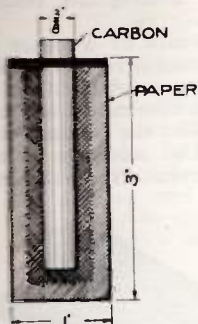

FIG. 1
M. E. FIG. 1
The cell described below is very simple in construction and much cheaper than purchasing. Secure the requisite number of zinc discs 1" in diameter and the same number of zinc sheets measuring 4" by 3". Now roll these sheets about a wooden cylinder, 1" in diameter, and carefully solder the lap together. Remove the zinc cylinder and solder the bottom discs in place. Caution: use a high lead solder and take care to keep the solder on the outside, preventing any from running inside where it would be corroded by the chemicals. Now line the cup with brown paper, leaving about an inch projecting above the top. Place a little of the following mixture on the bottom forming a layer $\frac{3}{8}$ " thick. Paste No. 1.—Plaster-of-Paris 12 parts, ammonium chloride 5 parts, zinc chloride 3 parts, water 22 parts, all by weight. See Fig. 1. Place a $\frac{1}{2}$ " wooden rod in the center and fill all around it to within $\frac{3}{8}$ " of the top of the zinc, with the same paste. After standing a while remove the rod and place the $\frac{3}{8}$ " carbon in place, filling the remaining space with the following depolarizing compound. Paste No. 2.—Carbon dust 35 parts, manganese dioxide 5 parts, zinc chloride 1 part, ammonium chloride 5 parts, potassium nitrate $\frac{1}{2}$ part, potassium sulphite 1 part, potassium permanganate $\frac{1}{2}$ part, all parts by weight, water to make a stiff paste. After filling in this last mixture fold the projecting paper down about the carbon rod and fill the cell level full with wax or pitch, punching a small hole through the wax to provide for the escape of the disengaged gases. The cells may be mounted in any convenient manner and should be connected up the same